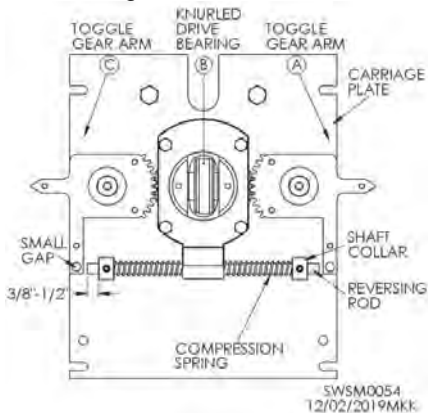

Fig. 41 – Aligned reversing mechanism
- 1 Align toggle gear arms (A & C) and drive bearing (B) so they are parallel with side of carriage plate. See Figs. 41 & 42.
- 3 Compression spring should have same measurement on both sides of carriage housing to shaft collar. Ensure distance between shaft collar and end of reversing rod is same on both ends. Distance between reversing rod and arm on toggle gears should also be checked for distance. See Fig. 41.